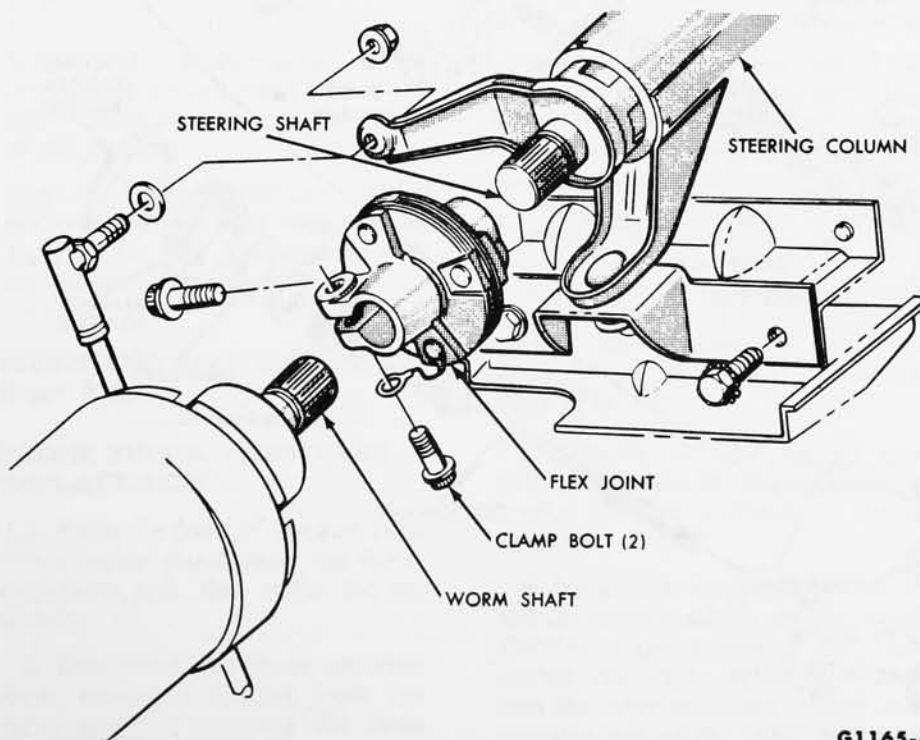

FIG. 25—Steering Column and Shaft-to-Steering Gear Connections
2. Remove the bolt that locks the flex joint clamp to the steering gear worm shaft (Fig. 25).